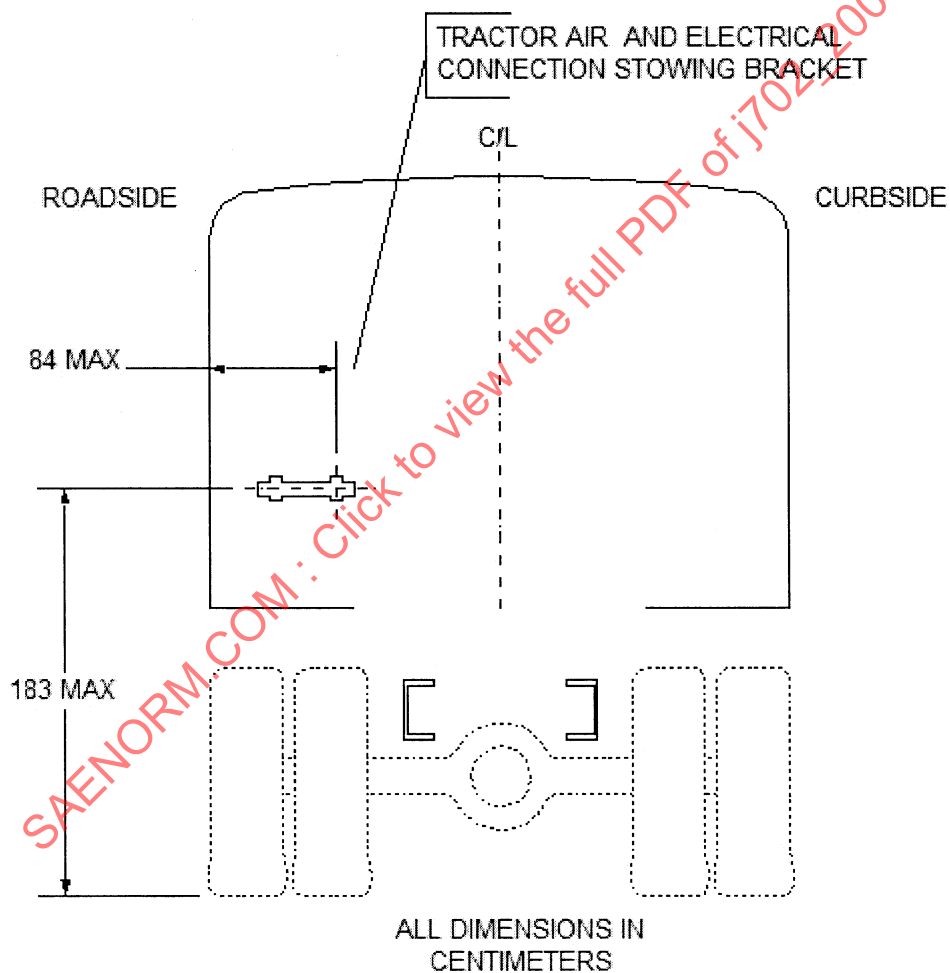

FIGURE 1—BACK OF CAB - RECOMMENDED LOCATIONS
- 3.1 Truck-Tractor Fittings**—Fittings for stowing the cable and hose shall be located on the back of the cab within the area shown in Figure 1. For ergonomic reasons, connections should be located as low and as far roadside as possible.